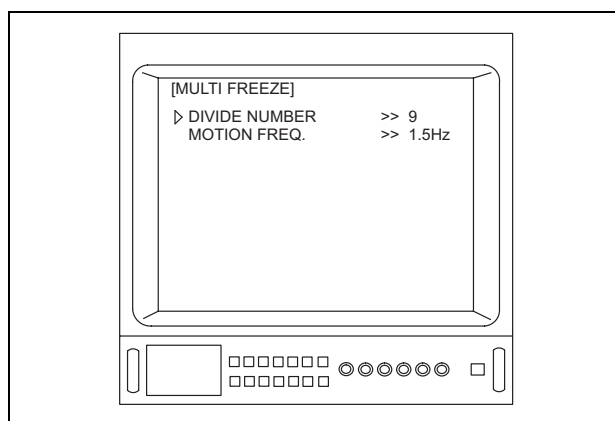

Figure 5.128
6. Depress the menu switches “” or “”, or the “” key on the keyboard to move the arrow “” to “DIVIDE NUMBER” (see Figure 5.128).
Depending upon the OTV-S7V's settings, the menus shown in Figures 5.128 and/or 5.129 may appear different from those displayed on the video monitor.